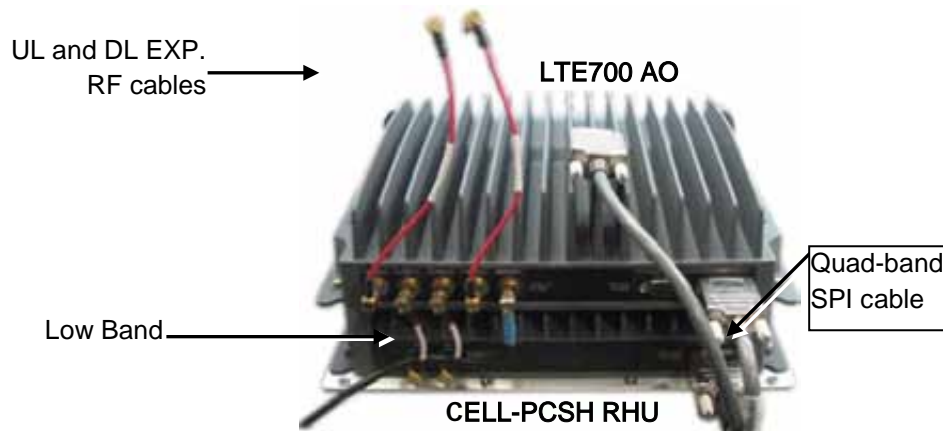

Figure 4-4. RHU and AO Units
2. Refer to Figure 4-4 and perform the following connections: